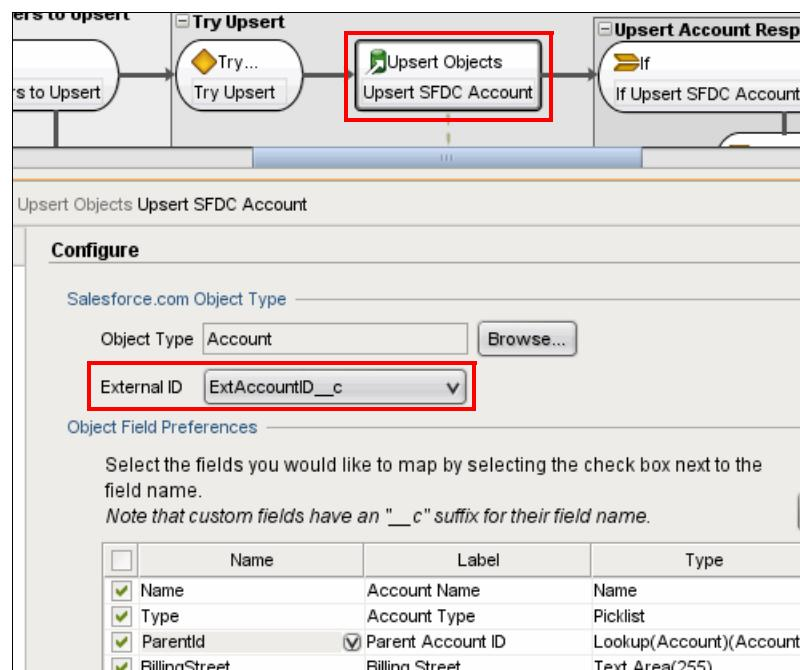

Figure 10-40 Upinsert configuration
1. As shown in Figure 10-40, the external ID is defined as **ExtAccountId_c**. This ID was set in the template configuration wizard in “Obtaining Salesforce.com custom fields” on page 369.